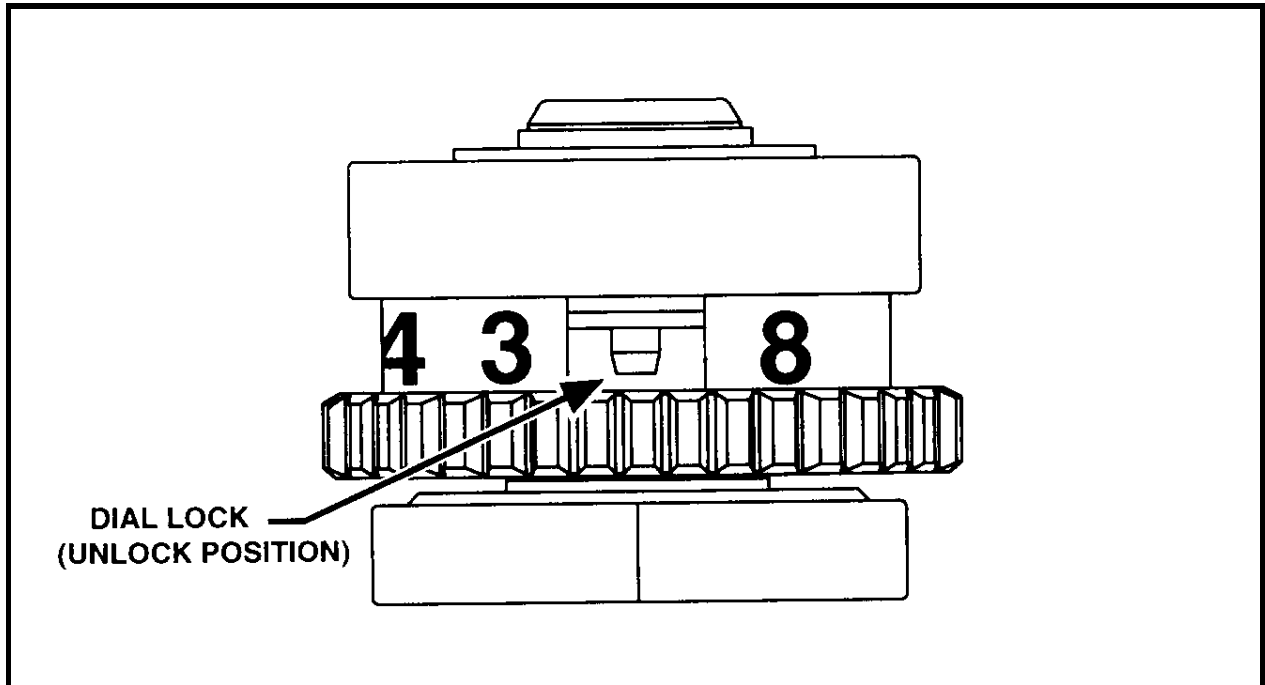

Figure 4-12 Range/Elevation Dial
- d. **Step Four.** Lift the range/elevation dial lock upward to the unlock position (see Figure 4-12).
- c. **Step Three.** Lift the range/elevation dial lock upward (see Figure 4-12).